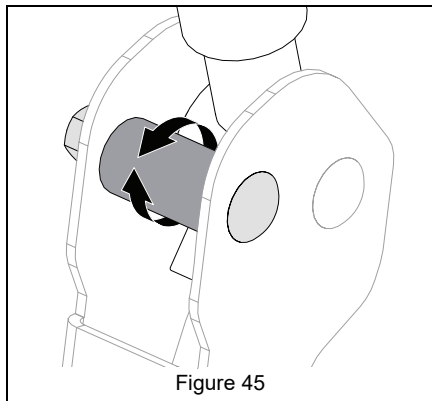

Figure 45
5. Turn eccentric spacer so levers are at the same height and have a 1.3 cm – 2.5 cm (1/2" – 1") gap between lever ends. See Figure 45.